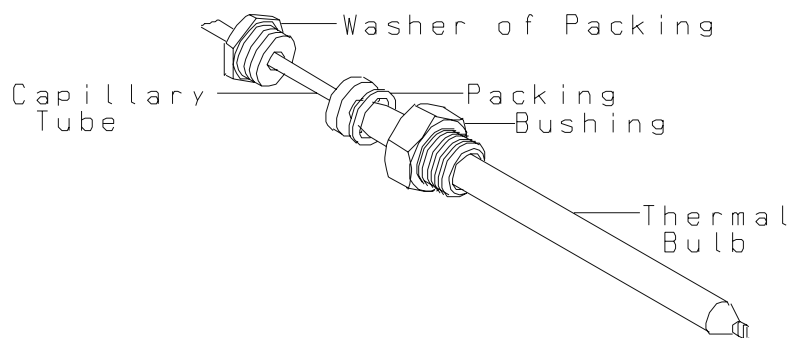
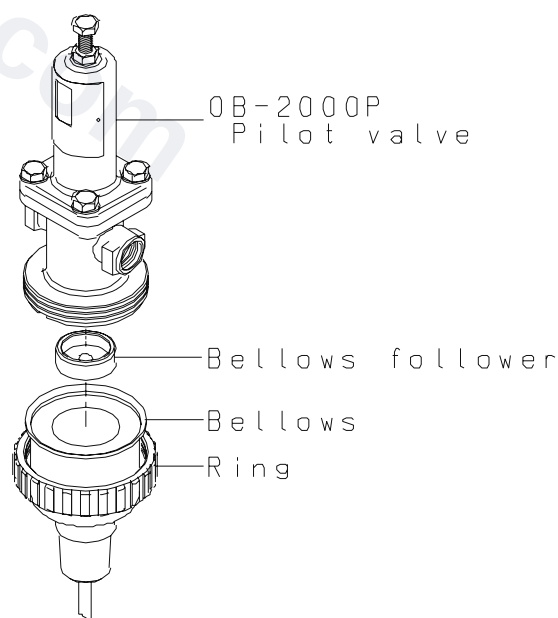

Fig. 2
Fig. 3
- (1) **Although the thermal bulb can be mounted in any posture, be sure that the mount position allows at least 3/4 of its total length to be immersed in the fluid to be monitored.**
- (2) **The bend radius of the capillary tube should never be less than 40mm. Avoid abrupt bend in the tube, and never twist or pull it with force. Furthermore, it should be secured in a manner which prevents it from touching the steam piping, etc.**
- (3) **Install the thermometer in a position close to the thermal bulb.**
- (4) **Handle the product not to apply the excess temperature to the sensor part.**
- (5) **Install the product in the place of ambient temperature below the setting temperature.**
- (6) **Screw on bushing first, then use washer of packing to secure thermal bulb. (Fig. 2)**
- (7) **If temperature detection is to be executed with the thermal bulb inserted into the piping, it should be installed at a point where the circulation is best.**
- (8) **Install bellows follower into the thermal bellows with its flat surface facing downward, then use the fastener ring to screw the thermal bellows assembly to the body. (Fig. 3)**